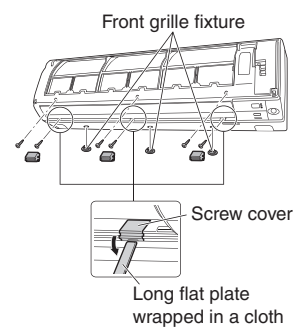

Fig.1
- 2) Remove screw covers (3 pcs.). (See Fig.1)
- 3) Remove the front grille fixing screws (6 screws). (See Fig.1)